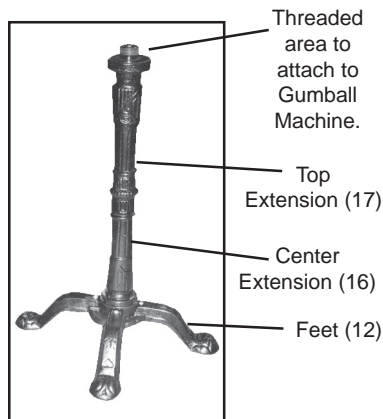

Figure 7
2. Twist on Center Extension (16) to Center Disk (13). Twist Top Extension (17) to Center Extension (16) and then the top threaded end to the Base Plate (11) of the Gumball Machine. Tighten all hardware and connections. **See Figures 7 & 8.**